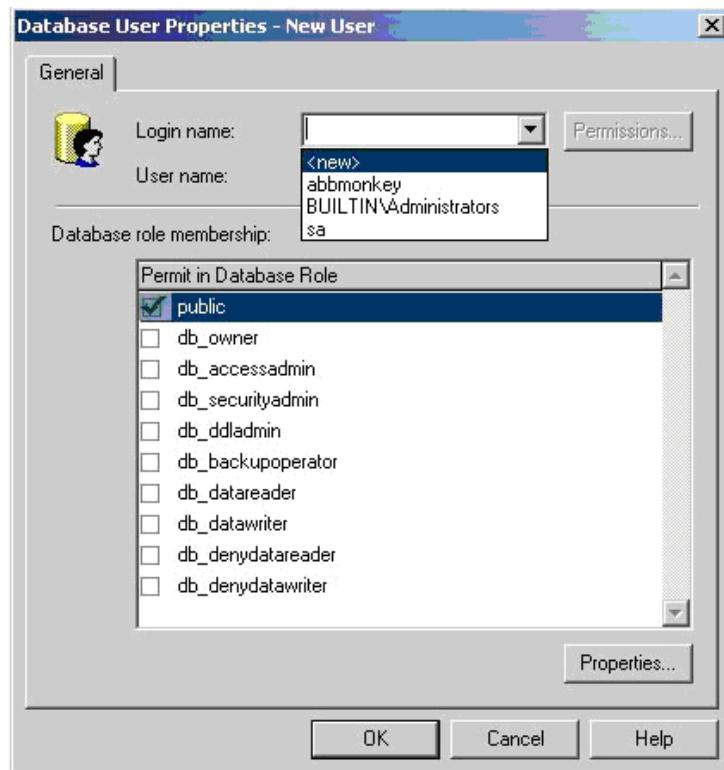

Figure 31: Creating a new user
1. Select <new> from the login name drop-down list to create a new user account, see Figure 31.